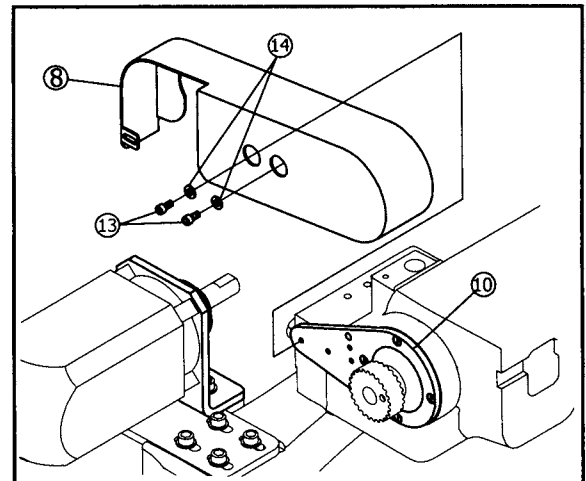
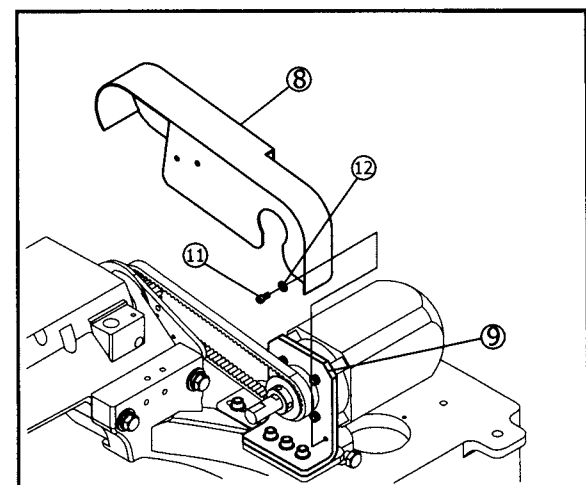

Fig. 17
Fig. 18
- (1) Set the belt cover⑧on the sewing machine motor cover⑩with the screw⑬and the washer⑭.
- (Fig. 17)
- (2) Fix the belt cover⑧on the sewing machine motor cover⑨with the screw⑪and the washer⑫.
- (Fig. 18)
- (1) 安裝皮帶護蓋⑧到馬達蓋座⑩要用螺絲⑬和墊片⑭鎖緊。(Fig. 17)
- (2) 固定皮帶護蓋⑧到馬達蓋座⑨要用螺絲⑪和墊片⑫鎖緊。(Fig. 18)